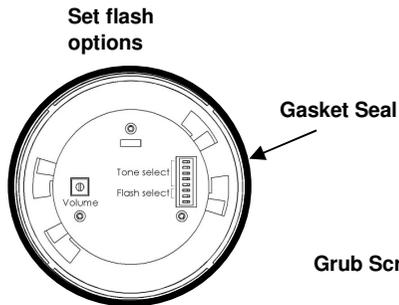

Figure 3
4. Set the Flash options via DIP switch shown in Figure 3, in accordance with the setting data on the reverse.
5. Ensure the Gasket Seal is correctly seated around the head, where shown in figure 3.